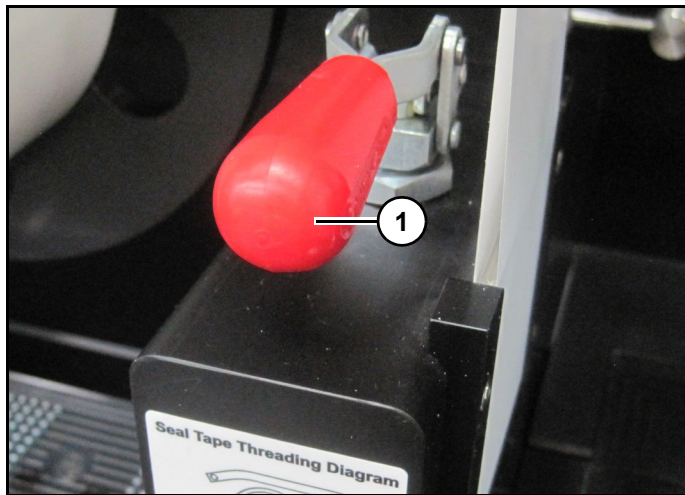

Figure 10
12. When seal tape is needed immediately, push Nip Roller lever (1) (Figure 10) to clamped position.